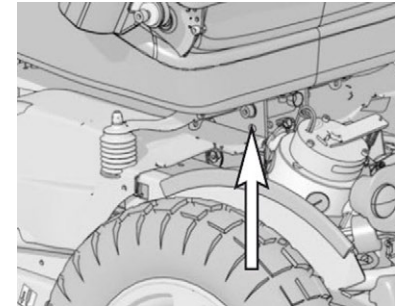

Figure 50. The seat's rear bracket on the chassis without an electric seat lift
1. Place the wheelchair on a level surface and raise the seat lift for better access. If the battery is completely dead, it is possible to manually raise the seat lift using the screw at the front edge under the seat. Do not use an electric drill. If there is a fixed seat bracket, remove the rear chassis cover. Then remove the seat's rear mounting screw and tip the seat forwards. See fig. 50.